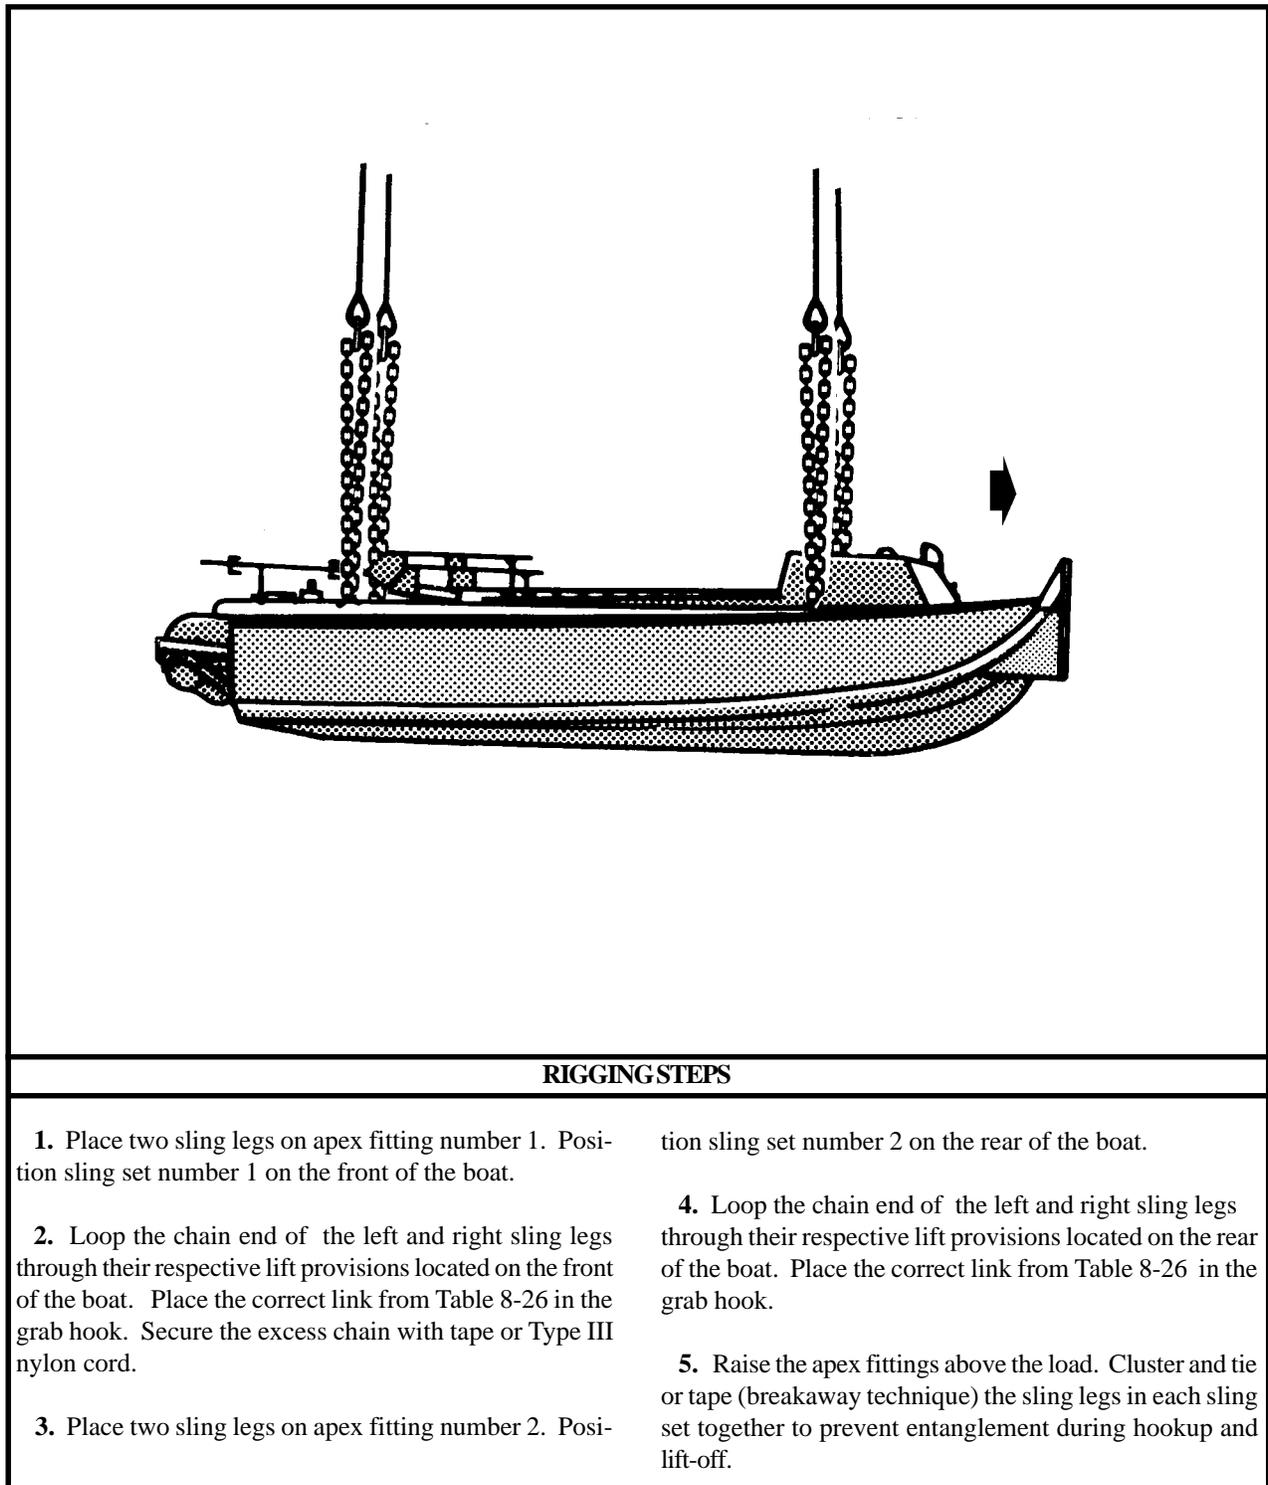

Figure 8-26. Ribbon Bridge Erection Boat, MK2
(2) **Rigging.** Rig the load according to the steps in Figure 8-26.